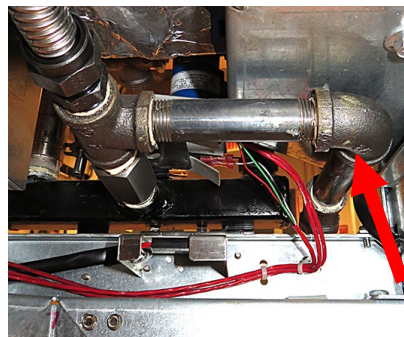

Figure 4
6. Locate the dispose plumbing under the fryer, beneath the filter pump (see Figure 4).